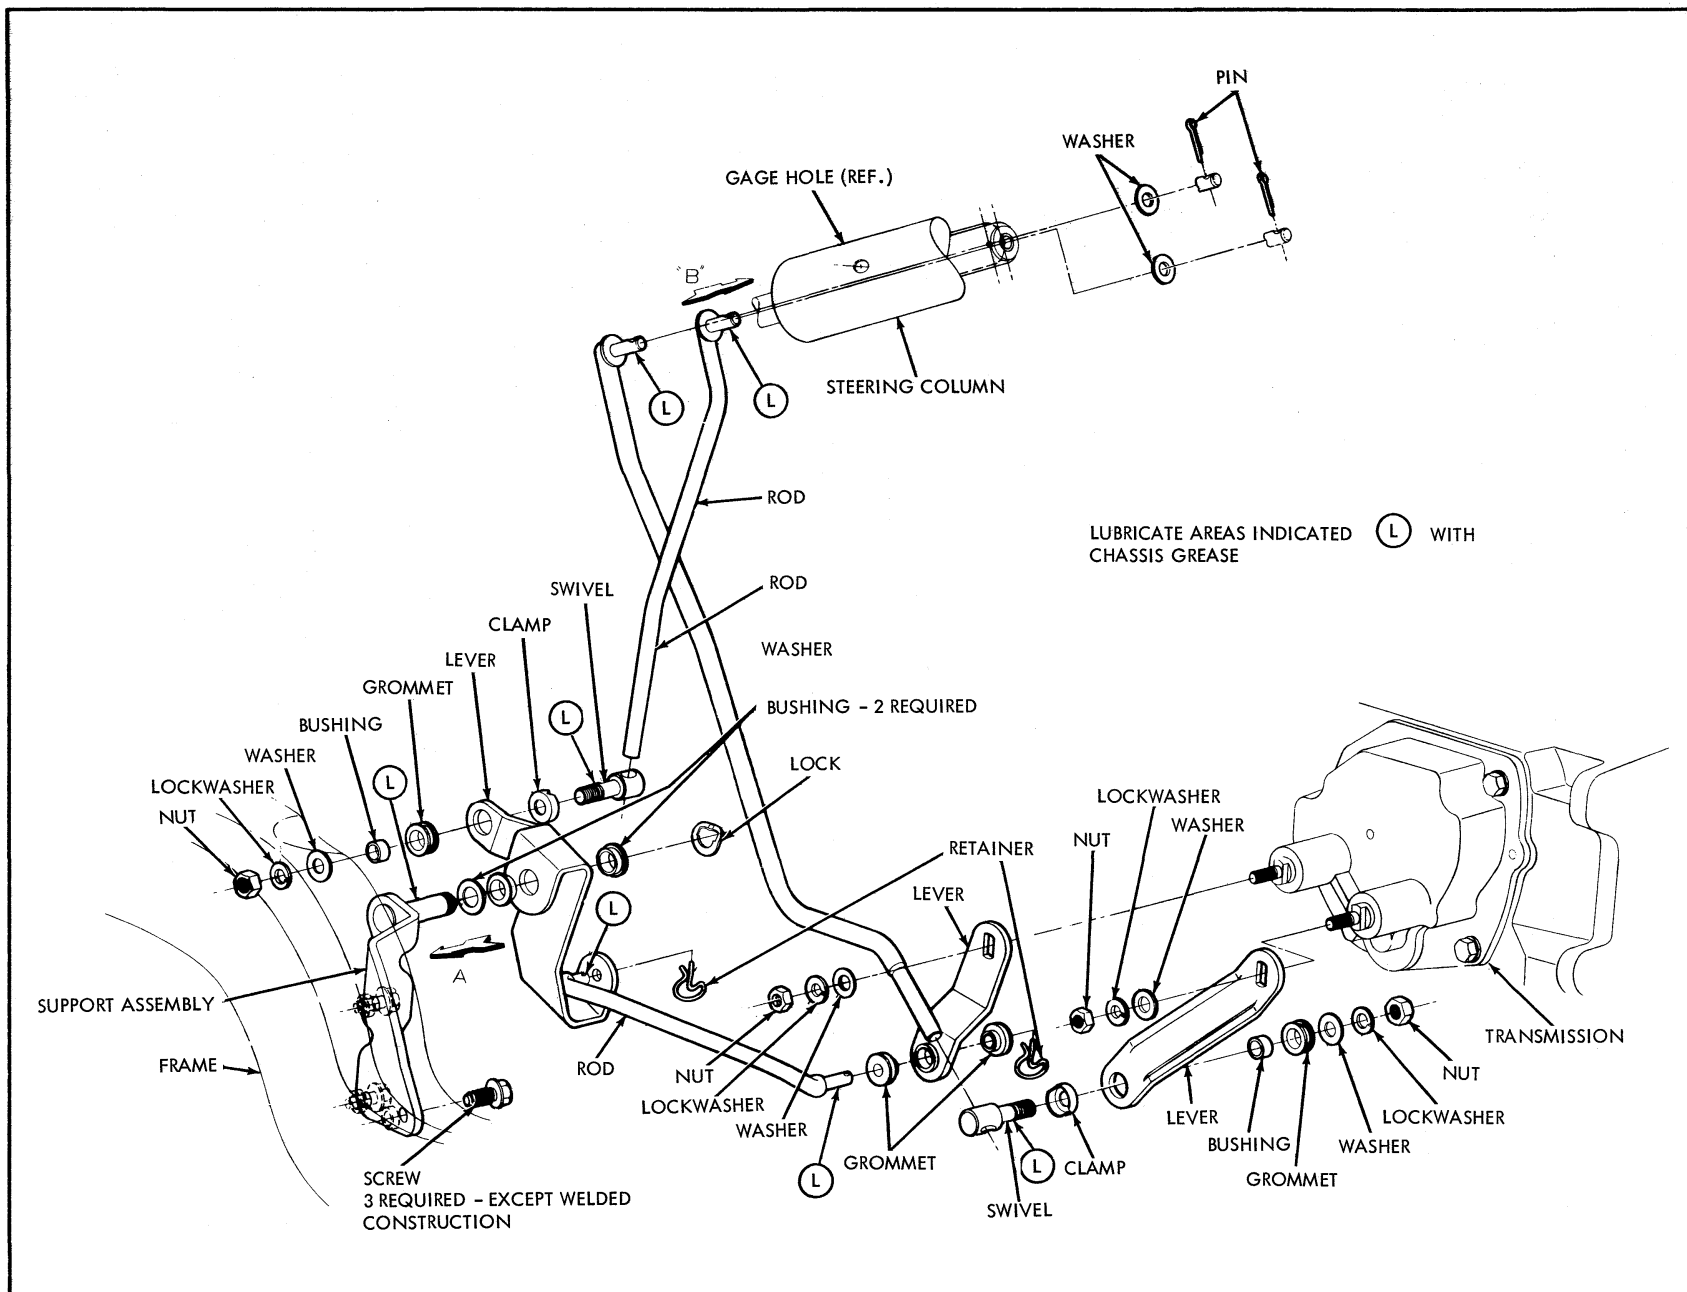

Fig. 7-8 Gearshift Controls (Column) - 6 Cyl.
Gearshifting is manual through a concentric steering column gearshift mechanism (Fig. 7-8 & 7-9) which activates two rods connected to the shifter
GEARSHIFT LINKAGE ADJUSTMENT (Column) (Fig. 7-8 & 7-9)
10. Install first and reverse shift lever (Fig. 7-8, 7-9, 7-10).